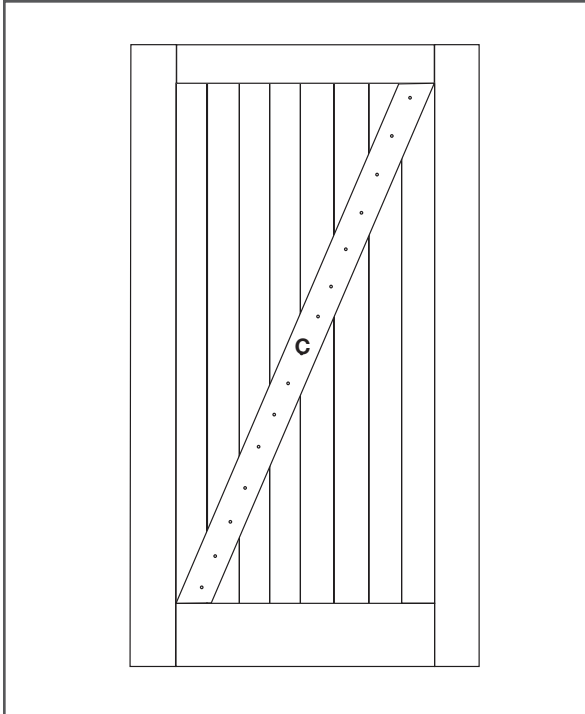

Figure 6
6. Lay the Diagonal Overlay (C) across the slats. Attach to slats and with 15 phillips screws (D) using a drill with a phillips bit (Figure 6).